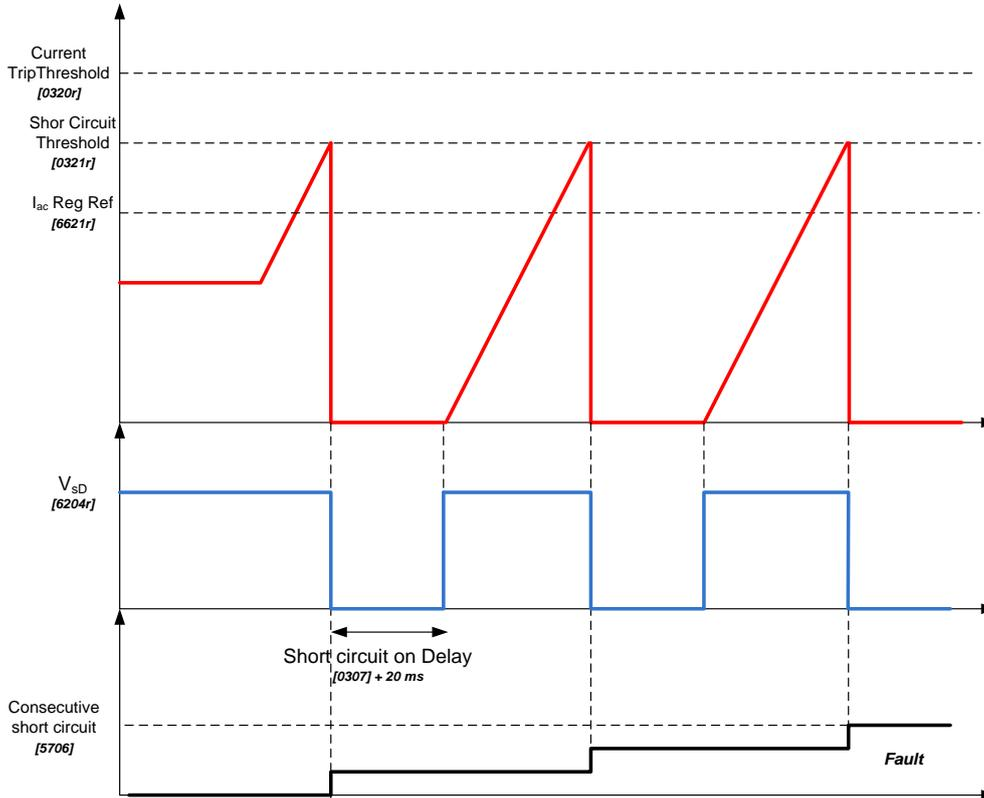

Fig. 3-108: Vac generator: short circuit protection INSTANT OFF mode
- Instant OFF: when the instantaneous value of the current (I_{inv}) is higher than *short circuit threshold* [0306] the pulses are switched off and they are switched on again after a delay time *short circuit on delay* [0307]. In this case it is applied the reference voltage. If the short circuit happens after 20 ms that the fiber are switched off a counter is incremented. When the counter value reaches the parameter value *consecutive short circuit* [5706] a fault is generated ([5029] *shortcircuit fault*). The counter is reset after 20 ms that the fibers are switched on. The behavior is showed in Fig. 3-108.